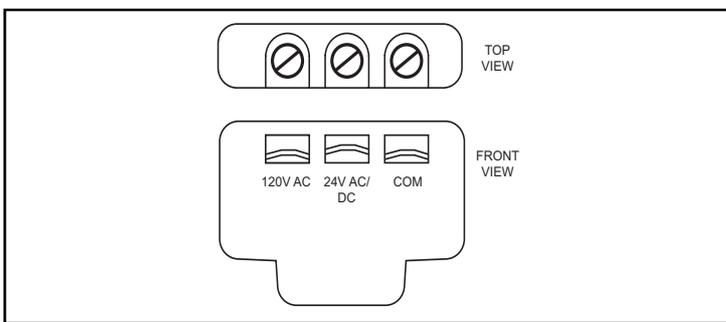

Figure 4. Terminal Block
3. Refer to Figure 4 and connect as instructed below: